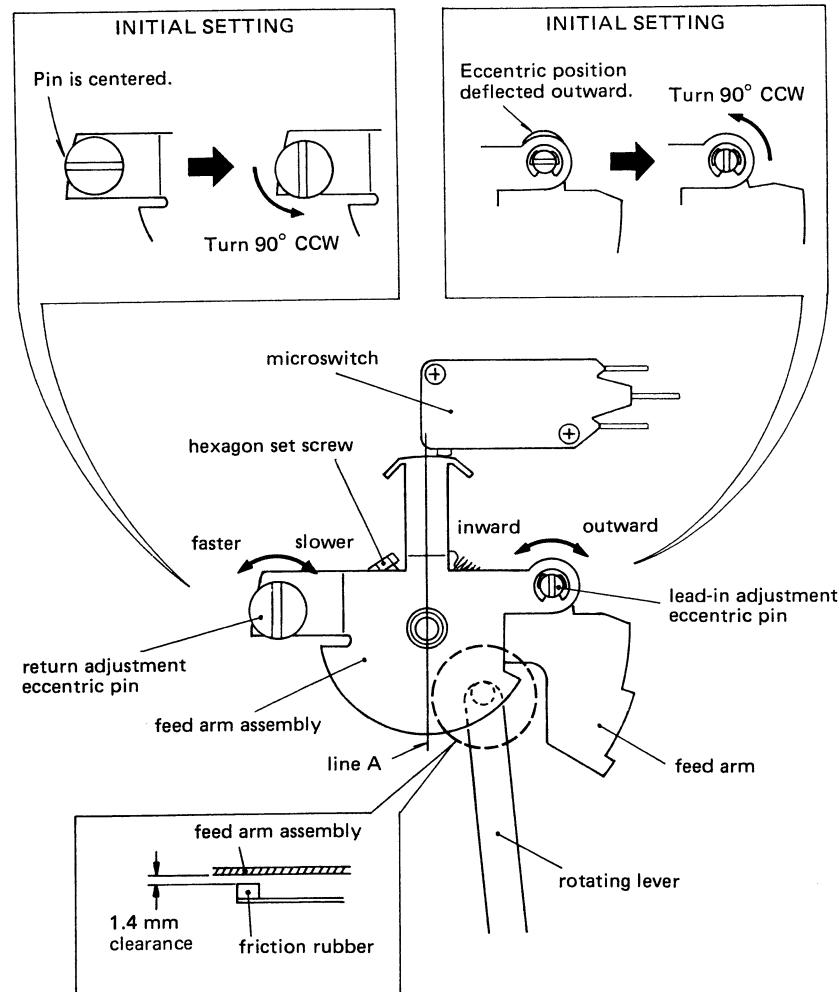

Fig. 4-7
- Initially set the two eccentric pins as shown in the upper portion of Fig. 4-7.
- If the tonearm is not automatically brought to the lead-in groove and lowered to begin play (for either 17 cm or 30 cm record size selection), turn the lead-in eccentric pin on the feed arm assembly until proper operation is obtained (refer to Fig. 4-7).